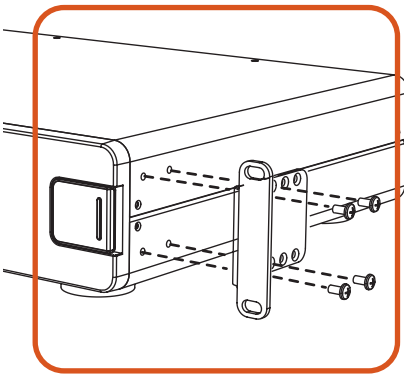

Figure 1
- D. Attach the bracket to the side of the Power Console with the screws provided (Fig. 1). You must use a minimum of four screws to mount each bracket.